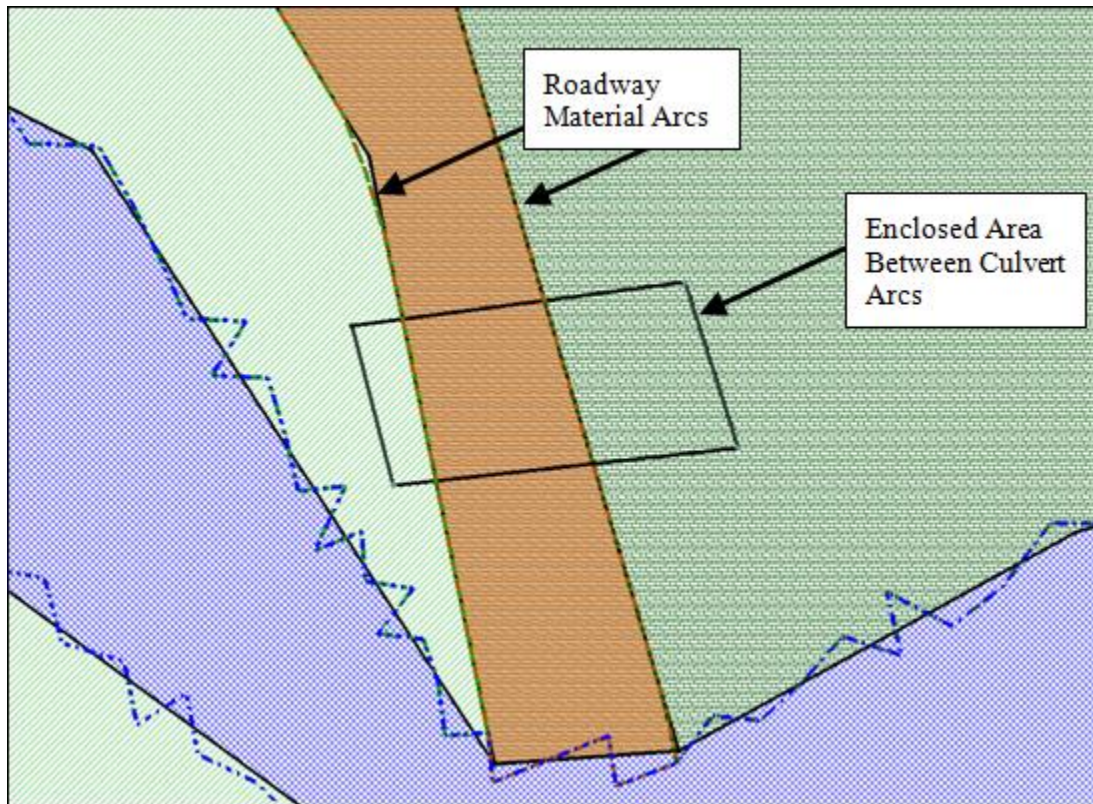

Figure 6 Enclosed area between culvert arcs and roadway material arcs
3. Using the **Create Feature Arc**  tool, draw one or more arcs enclosing the area between the two culvert arcs. If drawn correctly, the arc should close upon itself and appear similar to Figure 6.